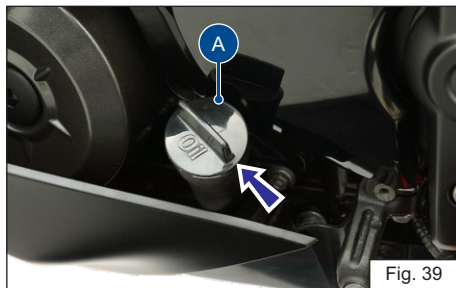
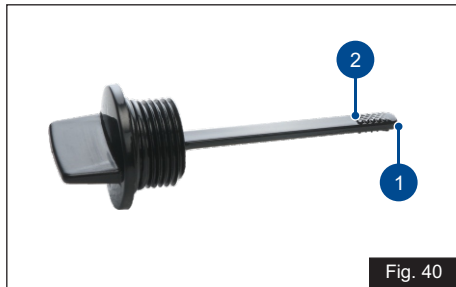

Fig. 39
Fig. 40
To check the engine oil level, a gauge oil level (dip stick) (A) given on the left side of the crankcase (ref. Fig. 39).
- ♦ After 2 to 3 minutes, remove the gauge oil level (A) and wipe it cleanly.
- ♦ The level should be between minimum (1) and maximum level (2) mark on the gauge (ref. Fig. 40).
- ♦ If the level is below the minimum level (1), slowly add recommended engine oil till the level reaches to maximum level (2).